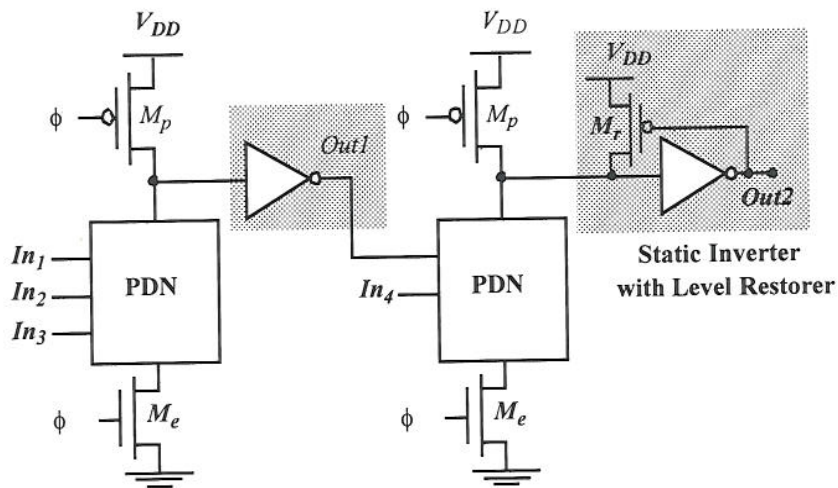

Figure 5.2 Domino logic circuit
- d) Describe how the domino logic circuit in Figure 5.2 overcomes this problem. [5]